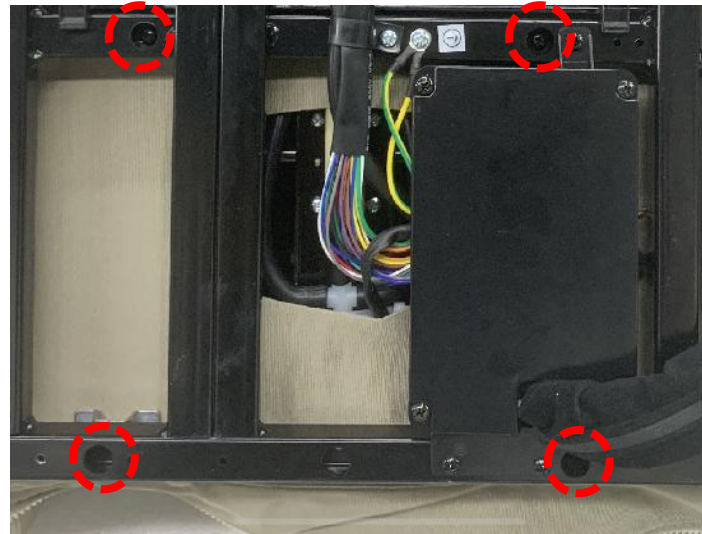

Figure 2
2. Remove the four fixing screws of the upper leg to remove the kneading assembly (Figure 2)